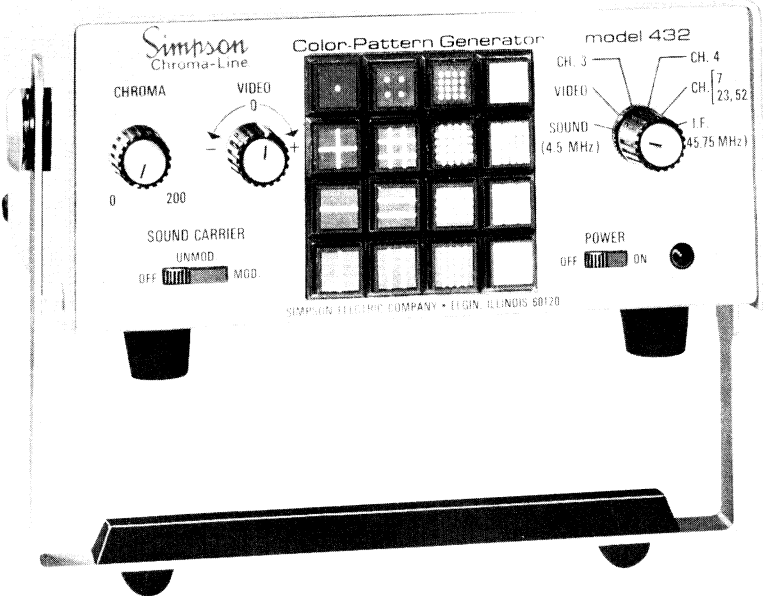

Figure 1-1. Model 432, Chroma-Line Color-Pattern Generator
1.2.1 The Simpson Model 432 (see Figure 1-1) is a portable line operated Instrument designed for accurate, easy convergence and adjustment of color or black and white television receivers. The many unique features and functions of this Instrument present entirely new concepts in servicing and maintenance procedures.